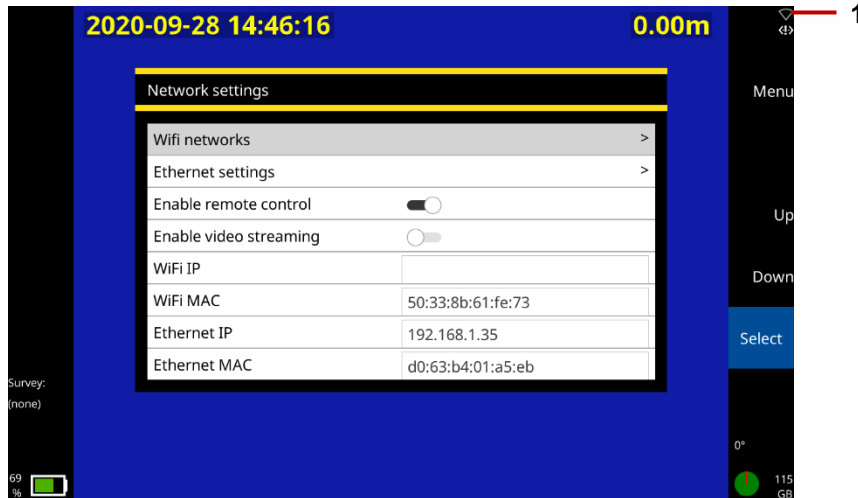

Fig. 8-1: Network settings screen showing Remote control enabled. 1 the Ethernet icon signifying a good connection.
- 10 Confirm that the C550c controller's Ethernet icon in the top right hand corner of the display shows that the connection is enabled as shown in Fig. 8-1.
- 6 Confirm that the C550c controller's Ethernet icon in the top right hand corner of the display shows that the connection is enabled as shown in Fig. 8-1.